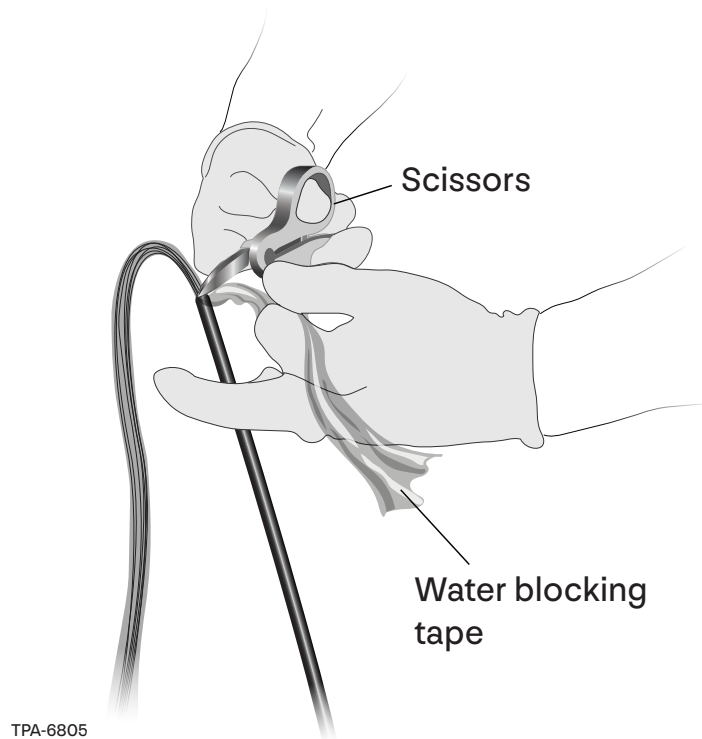

Figure 5
Step 4: Remove water blocking tape (Figure 5).